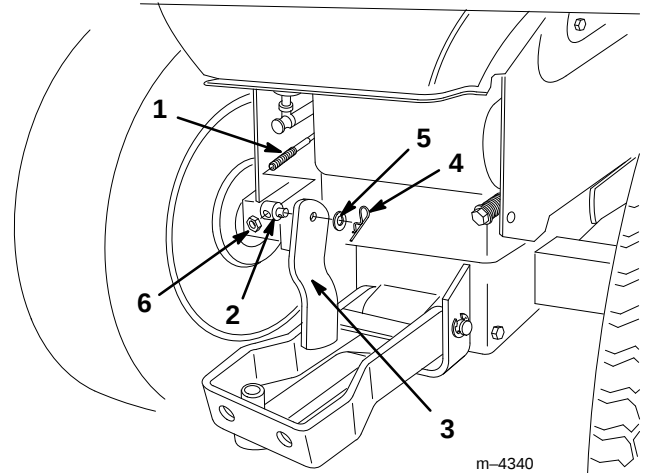

Figure 4
1. Install the trunnion and locknut on the new cable provided in the kit. Use the measurement taken in step 3 for locating the trunnion. Reinstall the trunnion into the left side of the lift cable mounting bracket (**this is opposite the original installation**) (Fig. 4), using the flat washer and hairpin previously removed .